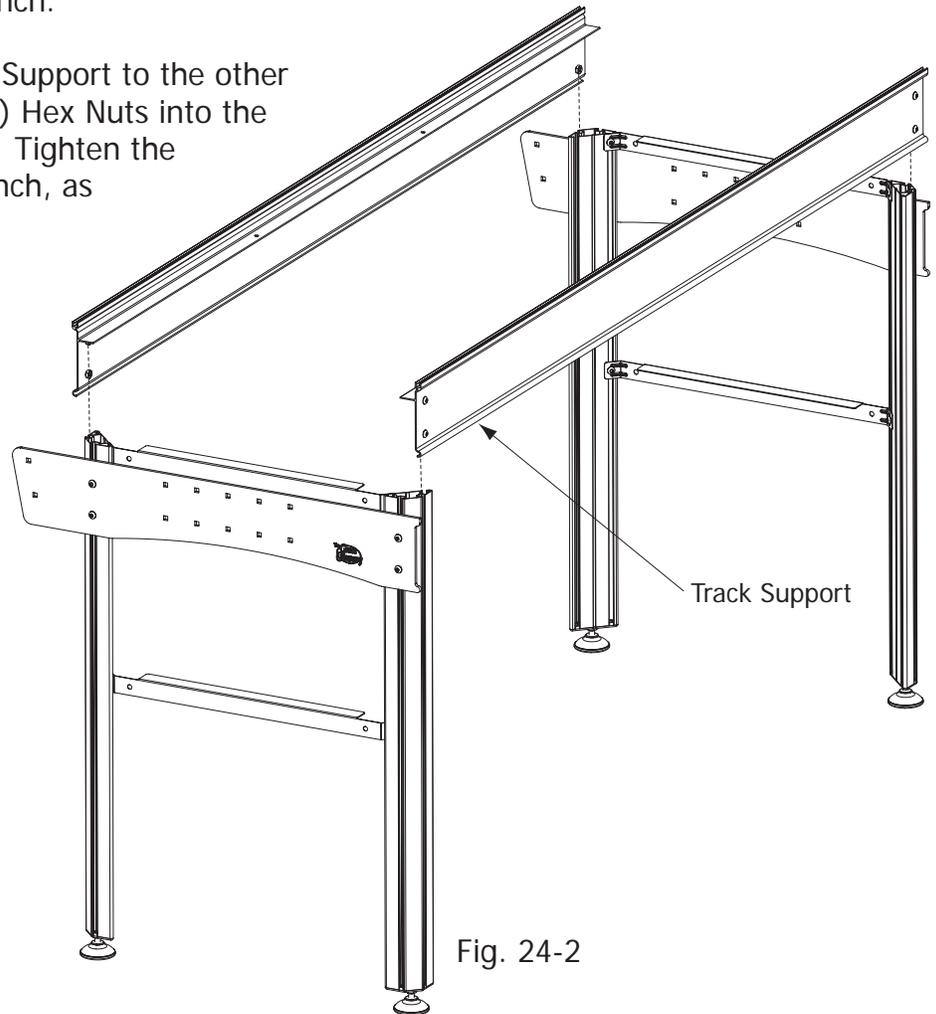

Fig. 24-2
24-3: Attach the other end of the Track Support to the other Outer Leg Assembly by sliding the two (2) Hex Nuts into the "T" slot in the Leg as shown in Fig. 24-2. Tighten the 3/8" SBHC screws with a 4mm Allen Wrench, as done in step 24-2.